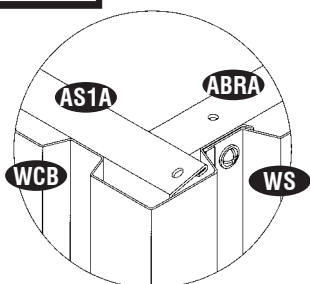

Fig.1
27. Place the top angle side (AS1A) on top of the wall panel (WCB) from inside. Line up the holes with the panel and secure with (S1) screws with washers. See fig. 1 & 2.